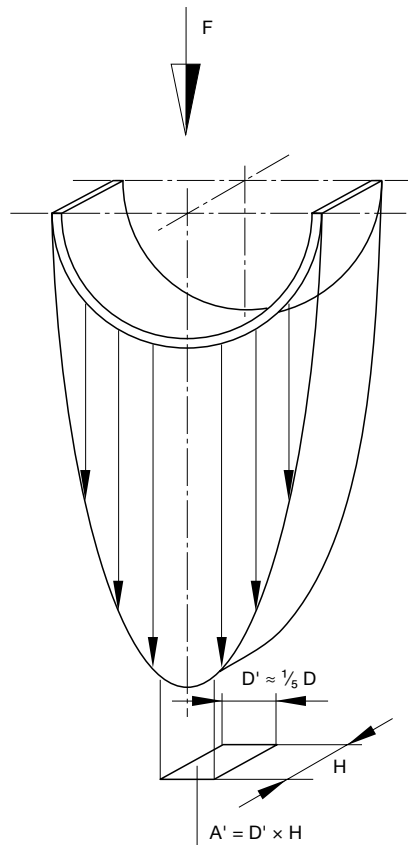

Fig. 6.1 Pressure distribution on bearing area
These lateral forces (F) lead to a pressure distribution as shown in fig. 6.1. In practice, calculation based on the projected surface has proved to be a simple and more useful method. This means that the load carrying area (A) can be calculated from the length (H) multiplied by the diameter (D) (see fig. 6.2). The surface obtained is about 5 times larger than the assumed bearing area of fig. 6.1, so that lower specific loads must be reckoned with. In order to obtain the same values for lateral forces “ F ”, the specific load must be only $\frac{1}{5}$ of the max. force shown in fig. 6.1. The indicated permissible specific forces ($F_{perm.}$) take this into account, and the admissible specific pressure mentioned relates to the projected area as shown in fig. 6.2.